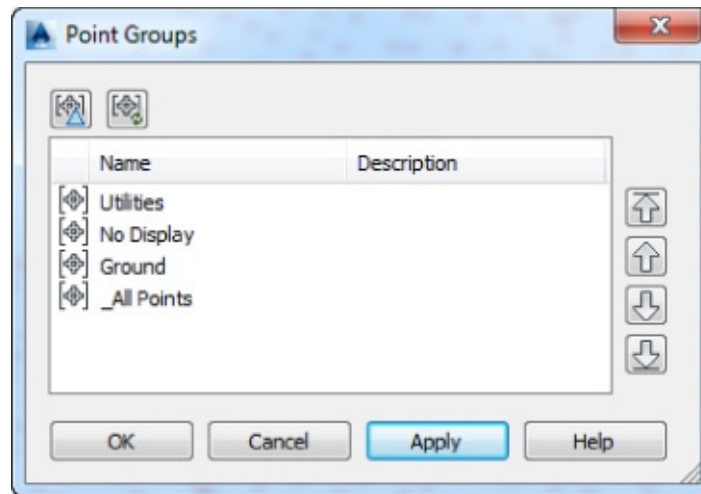

Figure 3.27 The order in which the point groups appear in this list controls precedence.
4. Move No Display so that it is listed directly below Utilities, as shown in Figure 3.27.